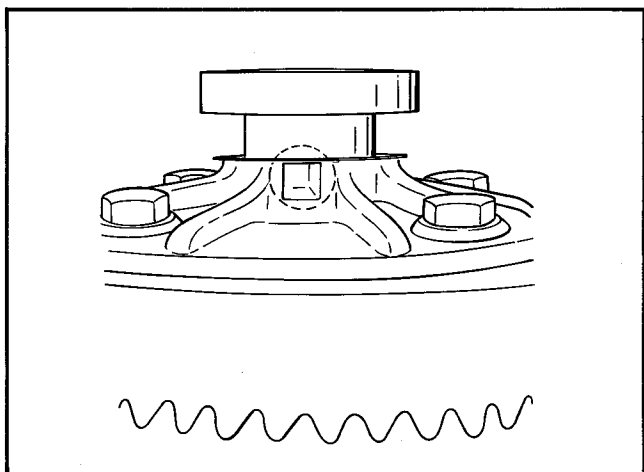

Figure 4-9 – Recess For Puller
- i. Remove bearings (3) if they are worn or damaged. (Do not remove differential bearings unless bearing failure is evident.) If removal is necessary, care must be taken to ensure that bearing puller jaws are located in cast recesses of differential case so the puller jaws will apply their force to the inner bearing race and not the bearing cage, Figure 4-9.
- j. Remove shims (11). Band or wire shims together to avoid losing them.